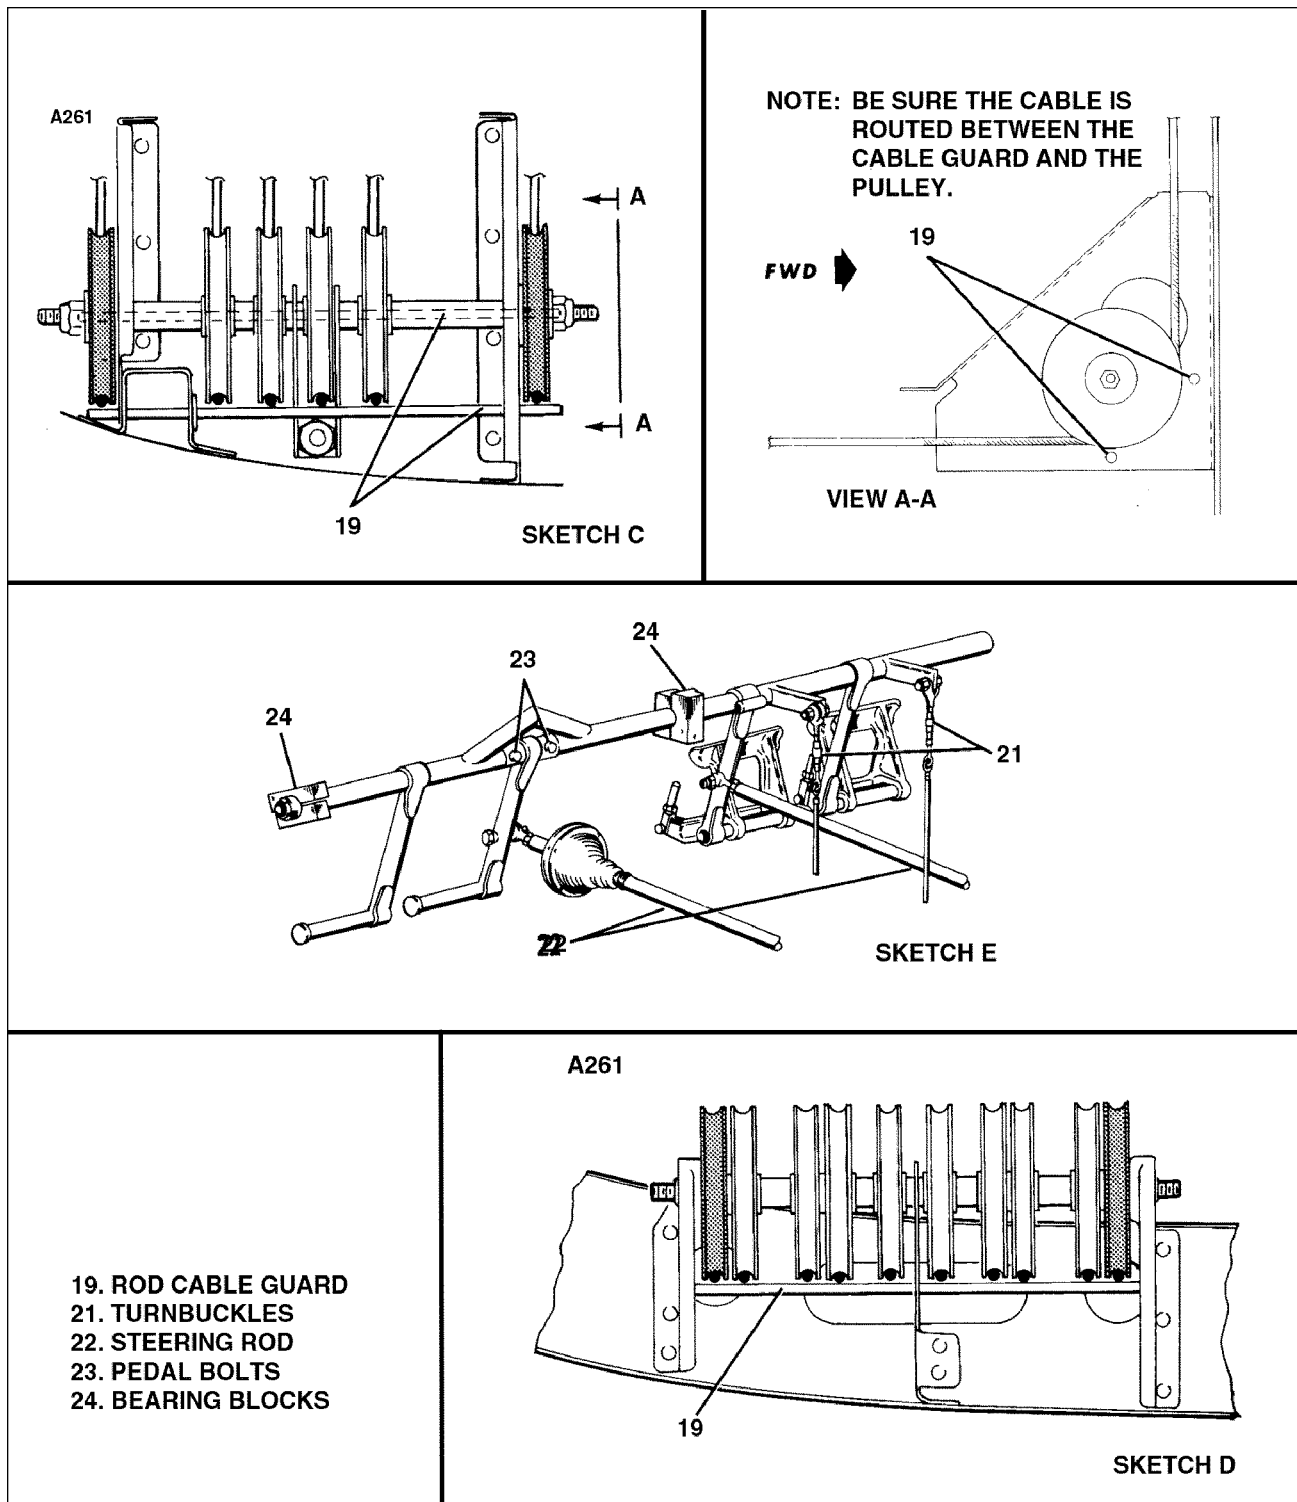

Figure 5-12. Rudder and Rudder Trim Control (Cont.)
5-25. Removal Of Rudder Control. (Refer to Figure 5-12.)
5-26. Installation of Rudder Controls. (Refer to Figure 5-12.)
CAUTION: WHEN STRINGING THE CABLES ON THE FRONT PULLEY CLUSTER JUST AFT OF FIRE WALL, BE SURE TO THREAD CABLE IN THE PULLEY GROOVE AND NOT OVER TOP OF EITHER THE FRONT OR BOTTOM CABLE GUARDS. (REFER TO VIEW A-A OF FIGURE 5-12.)
5-29. Removal Of Rudder Trim Mechanism. (Refer to Figure 5-12).
5-30. Installation of Rudder Trim. (Refer to Figure 5-12.)
5-31. Rigging And Adjustment Of Rudder Trim Mechanism. (Refer to Figure 5-12.).
- A. To rig the rudder trim mechanism, ascertain that the rudder pedals are neutral (Refer to Figure 5-12) and the nose gear steering is adjusted and centered according to Paragraph 6-23 of Section VI.
- B. With the rod end (18) disconnected from the nose gear steering arm, turn the trim knob to indicate neutral. Within the engine compartment, turn the bungee tube (12) on the trim screw (11) to maintain the following distance between the firewall and tube end.